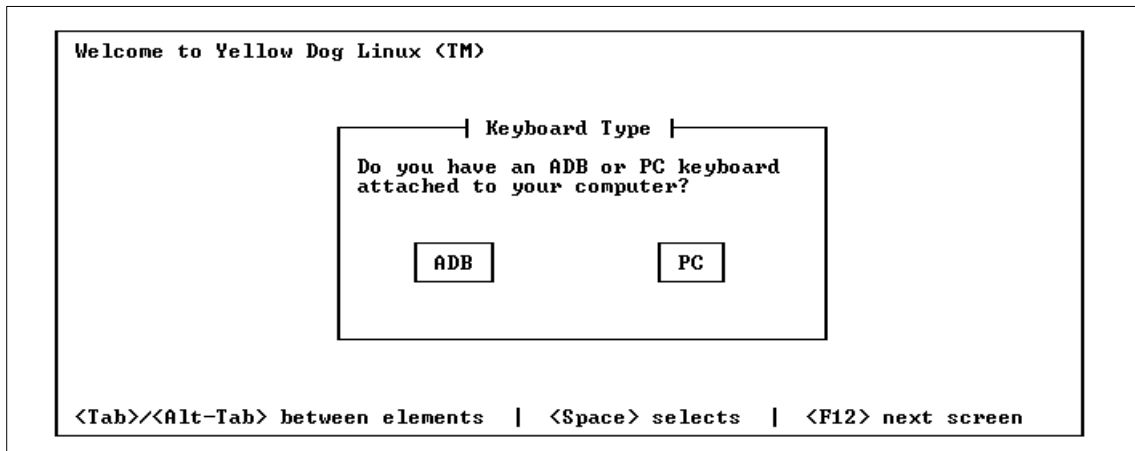
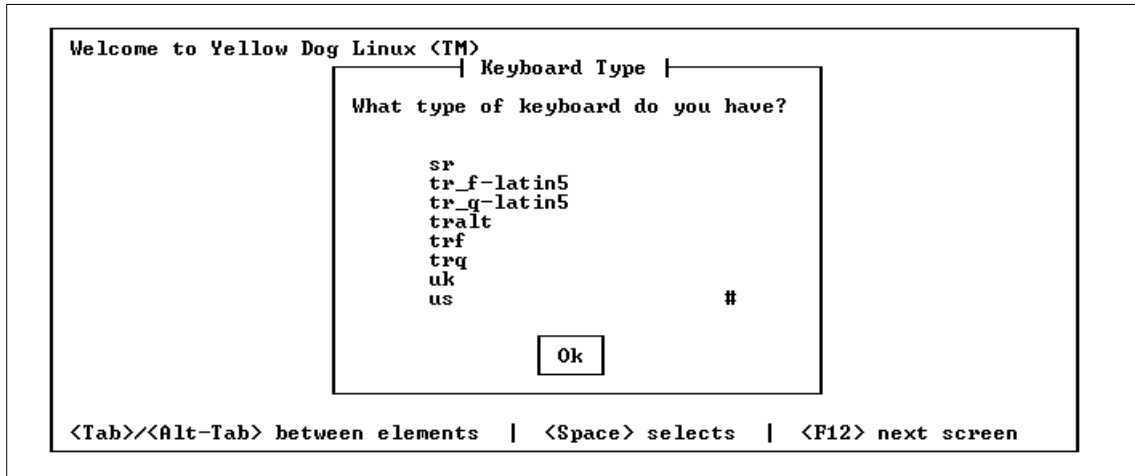

Figure 26. Keyboard Type Selection - 1
Figure 27. Keyboard Type Selection - 2
7. Select keyboard type **PC**, not ADB, and select **us**, then press **Enter** on the panels shown in Figure 26 and Figure 27 on page 162.